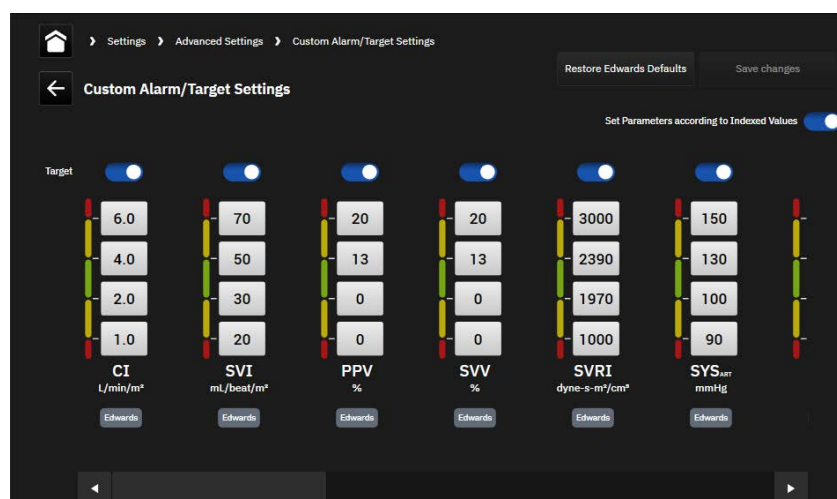

Figure 6-1 Custom Alarm/Target Settings screen
- 3 Use the toggle button to switch on “**Set Parameters according to Indexed Value**”. This will display all parameters and alarm/target values to their indexed values, if applicable. See figure 6-1.